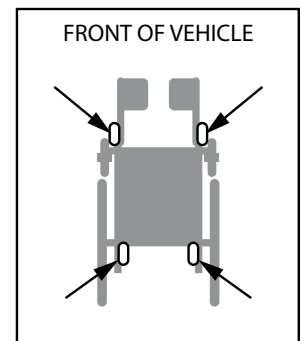

Figure 4. Tie Down Location
Note: See Figure 4 for the location of the four (4) Motion Composites installed WTORS securement points.